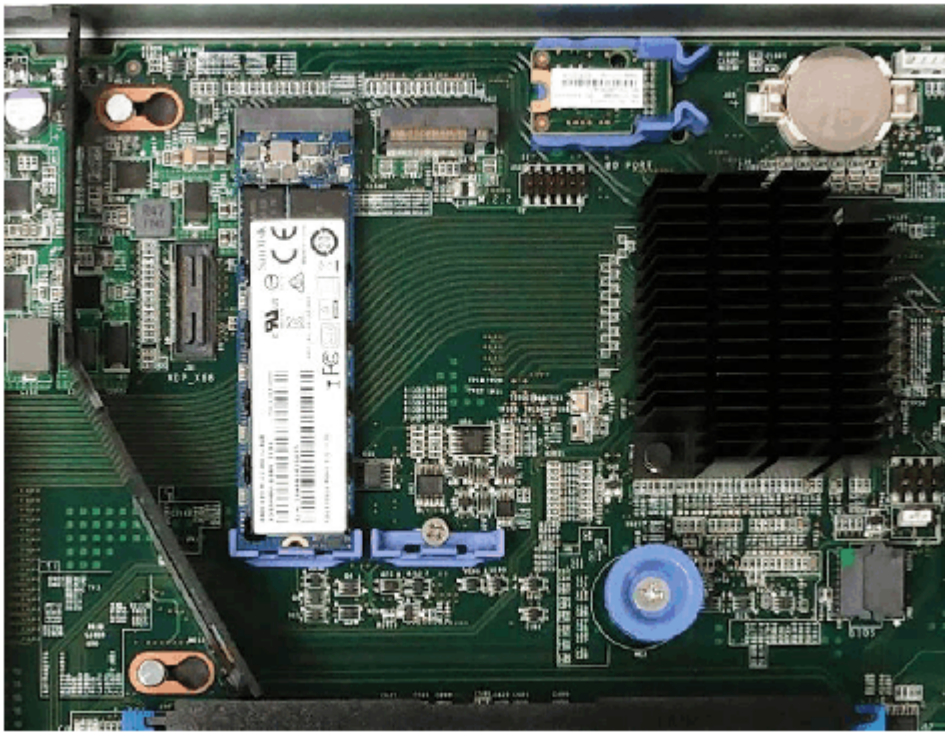

Figure 108. Locating the TPM
6. Locate the TPM, which is between the boot drive and CMOS battery, as shown in Figure 108 on page 147.